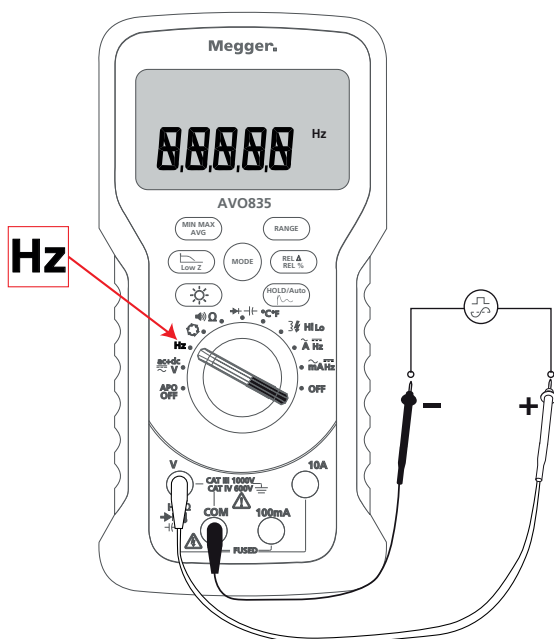

Fig 9: Frequency Measurement Set-up
1. Set-up the instrument as shown in Fig 9.